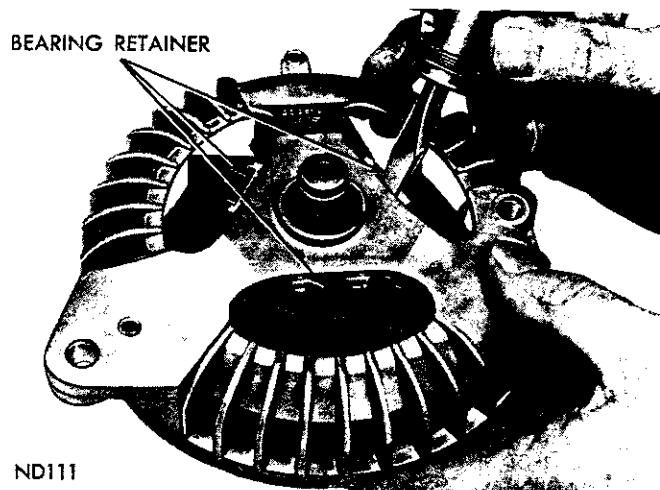

Fig. 18—Disengaging Bearing Retainer from End Shield
(7) Pry drive end bearing spring retainer from end shield with a screwdriver (Fig. 18).
(8) Support end shield and tap rotor shaft with a